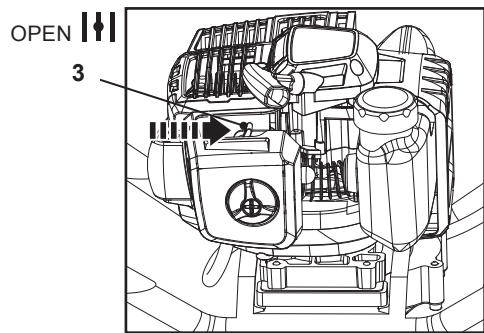

Fig. 7
2. Push the choke lever (3) all the way to the right (Fig. 7), the choke is now at OPEN position.